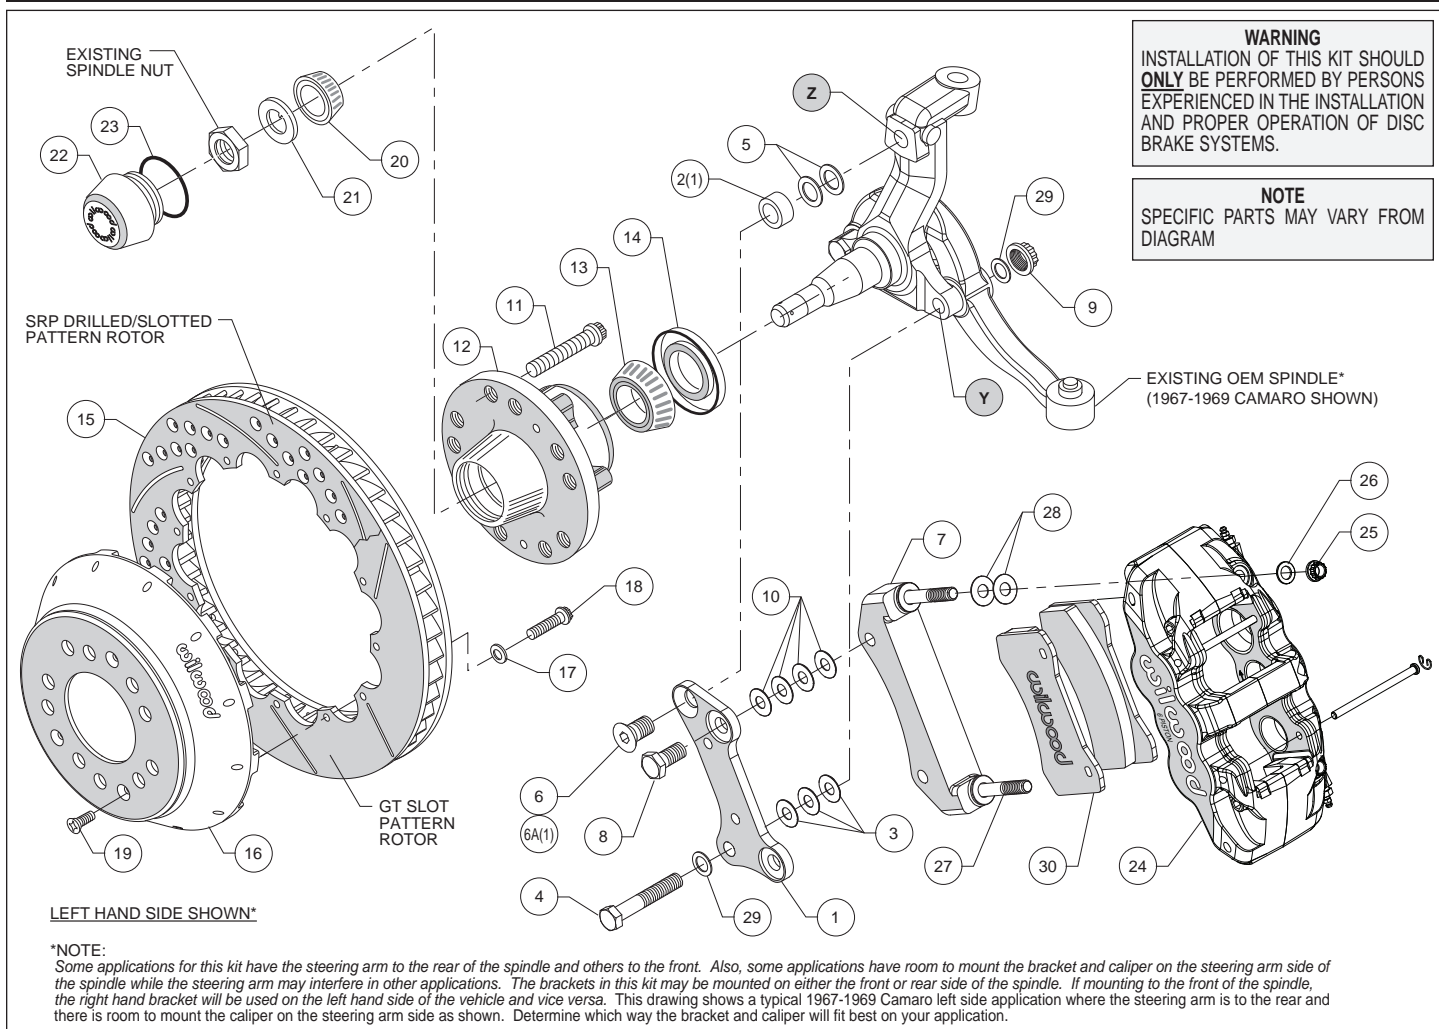
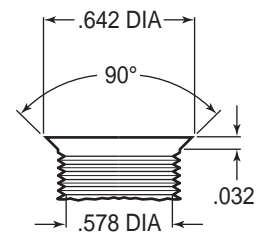
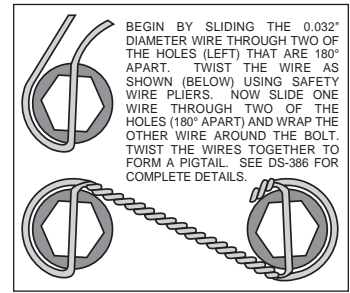

Figure 1. Typical Installation Configuration
Figure 3. Drill and Tap Detail
Figure 4. Safety Wire Diagram
**Assembly Instructions** (numbers in parenthesis refer to the parts list, and Figure 1 on the preceding pages):
• **NOTE:** Some applications for this kit have the steering arm to the rear of the spindle and others to the front. Also, some applications have room to mount the bracket and caliper on the steering arm side of the spindle while the steering arm may interfere in other applications. The brackets in this kit may be mounted on either the front or rear side of the spindle. If mounting to the front of the spindle, the right hand bracket will be used on the left hand side of the vehicle and vice versa. Figure 1 shows a typical 1967-1969 Camaro left side application where the steering arm is to the rear and there is room to mount the caliper on the steering arm side as shown. Determine which way the bracket and caliper will fit best on your application.
• **NOTE:** Some spindles in this year range may require the following modifications (reference Figure 1 and Figure 3): Top anchor pin hole (Z) must be drilled and tapped to the dimensions as outlined in Figure 3. The lower bolt hole (Y) in the spindle used to mount the new caliper bracket, and the mating steering arm hole, must be enlarged to .50" by drilling. It is recommended these modifications be performed by a qualified machinist.
• Install wheel studs (11) into the hub (12), Figure 1 and Photo 1. Torque to 77 ft-lb. **NOTE:** There are two five lug patterns in the hub (5 x 4.50 and 5 x 4.75). Ensure the correct hub stud pattern is being used to fit the wheel application.
• Pack the large inner bearing cone (13) with high temperature disc brake bearing grease (available from your local auto parts store) and install into the backside of the hub (12), Photo 2.
• Install the grease seal (14) by pressing into the backside of the hub (12), flush with the end of the hub, Photo 2.
• Orient the rotor (15) and the hat (16) as shown in Figure 1 and Photo 3. Attach rotor to hat using bolts (18) and washers (17). Using an alternating sequence, apply red *Loctite*® 271 to the threads, and torque to 155 in-lbs. For an added measure of security, the bolts may be safety wired using standard 0.032 inch diameter stainless steel safety wire as shown in Figure 4. Please refer to Wilwood's data sheet DS-386 (available at [www.wilwood.com/Pdf/DataSheets/ds386.pdf](http://www.wilwood.com/Pdf/DataSheets/ds386.pdf)) for complete safety wire installation instructions.
- Disc Brake Spindle Application Only:** Follow the instructions below, but instead use bolt (6A), spacer (2), and two .050" thick washers (5) in the upper bolt hole location, Figure 1.
- Orient the flat bracket (1) as shown in Figure 1 and Photo 4, and install using bottom bolt (4), washers (29), and nut (9), Figure 1. Initially place three .032" thick shims (3) between the bracket and spindle. Install the upper bolt (6 or 6A), Photo 5. Temporarily tighten bolts. **NOTE:** *The bracket must fit squarely against the mounting surfaces on the spindle.* Inspect for interference from casting irregularities, machining ridges, burrs, etc. Temporarily install the hub and hat/rotor assembly. Check that the bracket is aligned parallel to the rotor, Photo 6. If not, adjust by adding or subtracting shims (3) on the lower bolt between the bracket and spindle, Figure 1. Once the bracket alignment is correct, remove the upper bolt (6 or 6A), apply red *Loctite*® 271 to the bolt threads, and torque to 120 ft-lb. Torque the lower lock nut to 65 ft-lb.
- The radial mount caliper bracket (7) should initially be installed with clean dry threads on the mounting bolts. Orient bracket as shown in Figure 1, and install using bolts (8). Initially place four shims (10) on each bolt between the two brackets. Temporarily tighten the mounting bolts. Later, after the caliper alignment has been checked, the mount bolts will be secured using red *Loctite*® 271.
- Pack the small outer bearing cone (20) with high temperature disc brake bearing grease and install into hub (12). Final install the hub assembly onto the spindle. Secure using spindle washer (21), and OEM spindle nut, Photo 7. Adjust bearings per OEM specifications. Install new cotter pin (not included).
- Screw dust cap (22) into hub (12), Photo 8. Friction created by the o-ring (23) on the dust cap keeps it from unscrewing. **NOTE:** *The O.D. of the existing OEM spindle washer may be larger than the I.D. of the dust cap not allowing it to seat against the hub face. Therefore, use the spindle washer (21) supplied with the kit instead of the OEM washer.*
- Final install the hat/rotor (15 and 16) onto the hub (12) taking care to align the small countersunk holes in the hat with the small threaded holes in the hub. **NOTE:** *The hat must fit flush against the hub face or excessive rotor run out may result.* Install three flat head screws (19) through the small holes in the hat (16), Photo 9, and torque to 85 in-lb.
- NOTE:** *This kit contains distinct right and left hand calipers that must be mounted in a specific direction, as described below.* Lubricate the caliper mounting studs (27) with lightweight oil. Initially place two .030" thick shims (28) on each stud between the caliper and the bracket, as shown in Figure 1 and Photo 10. Mount the caliper (24) onto the bracket (8) using lock nuts (25) and washers (26), Figure 1. Ensure that the caliper is mounted so the largest pistons are at the rotor exit end of the caliper, in relation to the direction of rotor rotation. Temporarily tighten the lock nuts and view the rotor through the top opening of the caliper. The rotor should be centered in the caliper, Photo 11. If not, adjust by adding or subtracting shims (10) between the flat bracket (1) and the radial mount bracket (8). Always use the same amount of shims on each